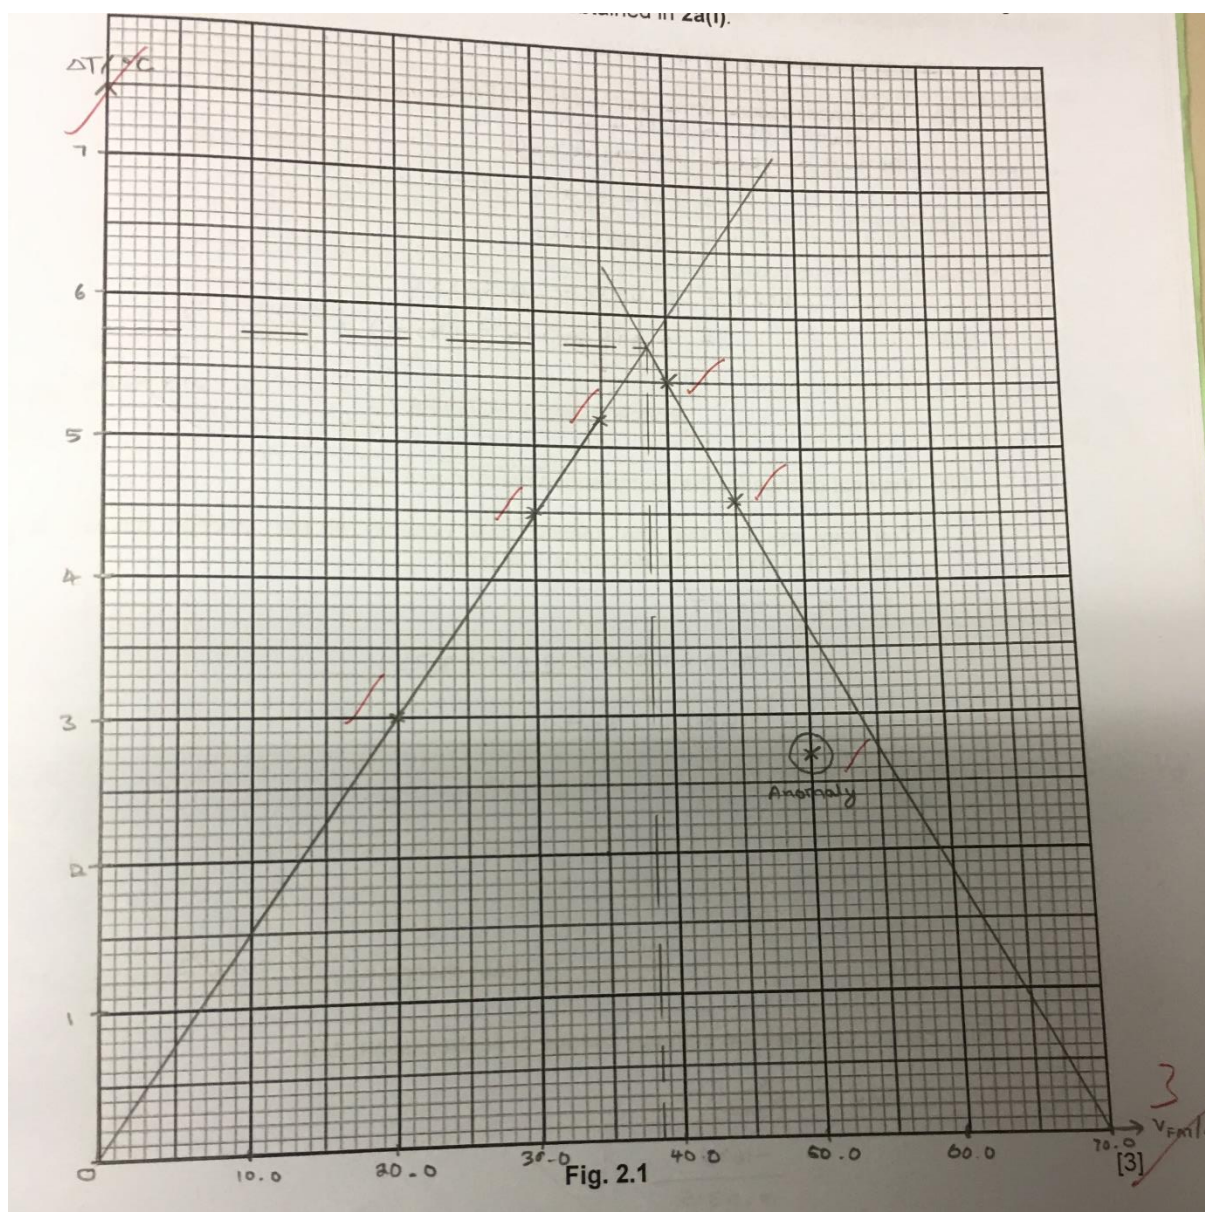

Fig. 2.1
- (ii) Plot a graph of ΔT (y-axis) against volume of **FA 7** used (x-axis) on the grid in Fig. 2.1 using the data you have obtained in **2a(i)**.
- (iv) From your graph in Fig. 2.1, determine the maximum temperature change, $\Delta T_{\max}$, and the volume, $V_{\max}$, of **FA 7** required to obtain this.